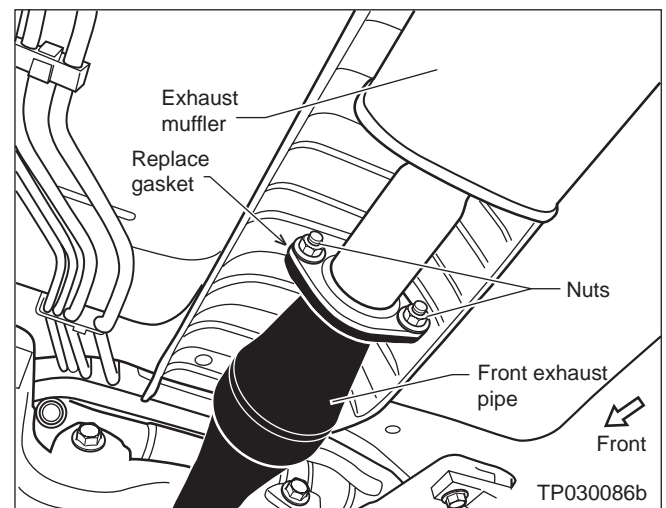

Figure 2
2. Remove the two nuts that hold the front exhaust pipe to the muffler (see Figure 2). Then, separate the front exhaust pipe from the muffler. Discard the old gasket. Replace with a new gasket during reassembly.